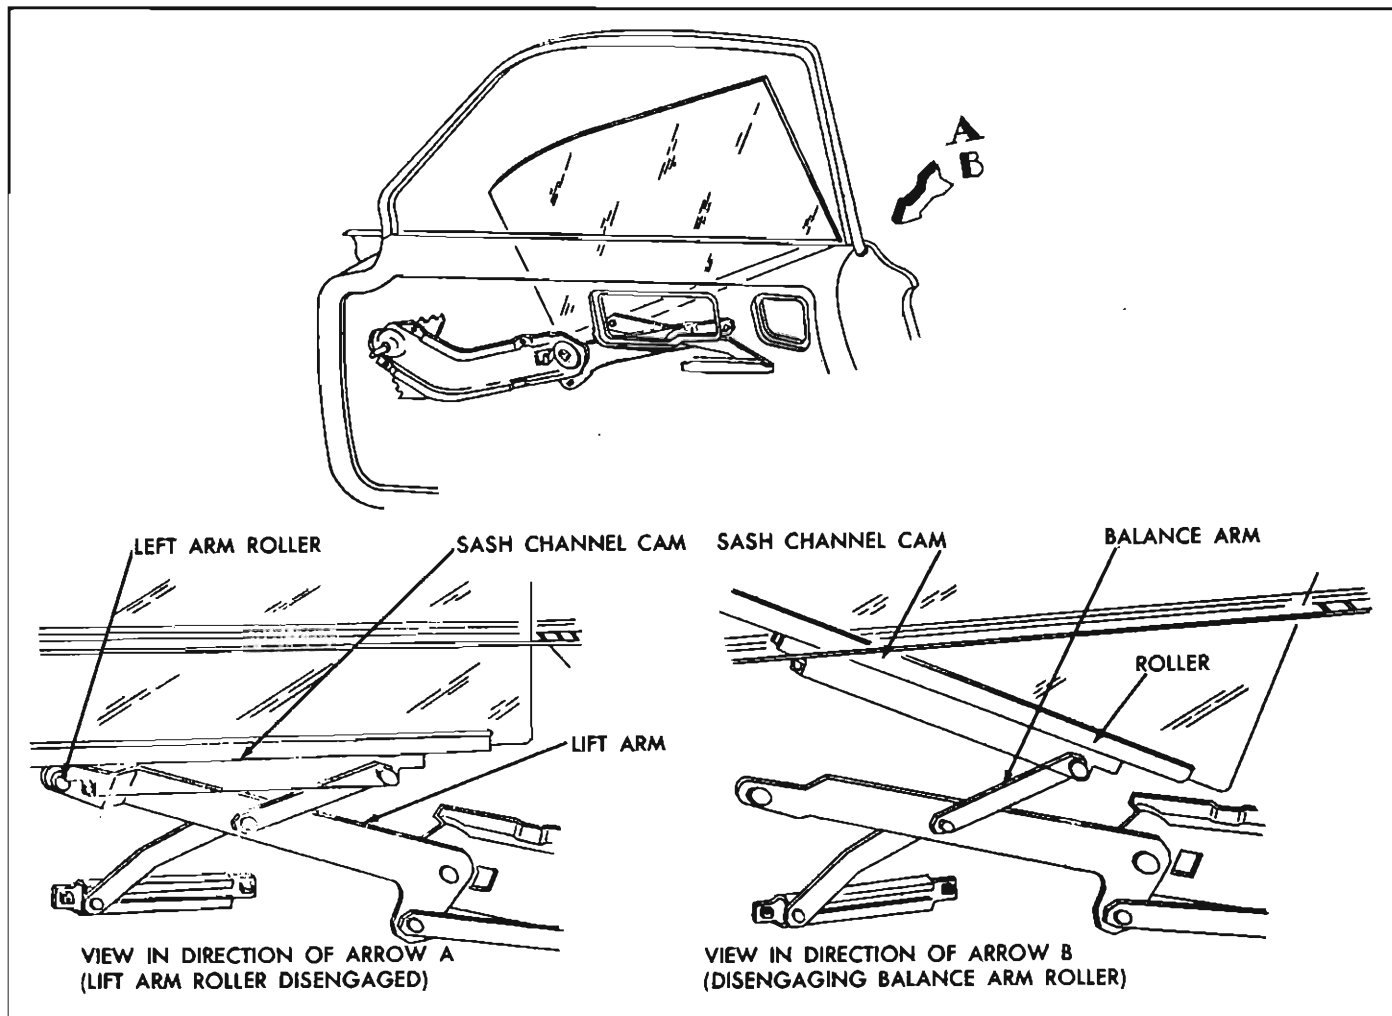

Fig. 9—Front Door Window Removal
3. On "27" styles, slide glass forward to disengage lower sash channel from regulator lift arm roller (See View "A" of Figure 9); then, tilt rear edge of glass upward and slide window lower sash channel off regulator balance arm roller (See View "B" of Figure 9) and remove window assembly from door.